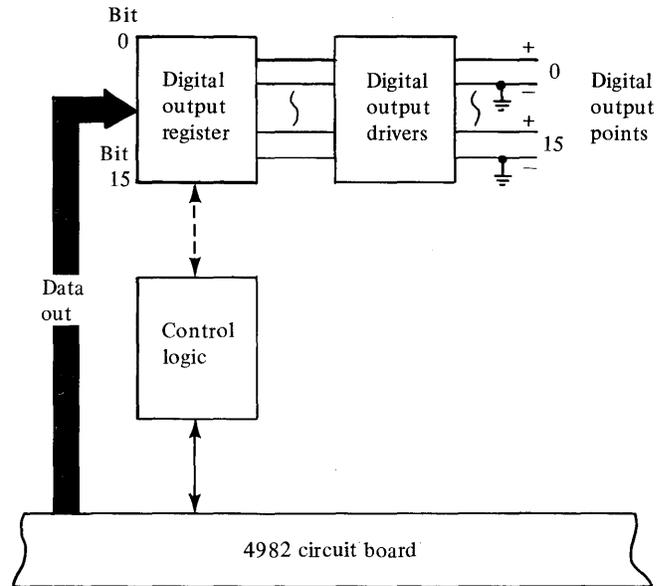

Figure 1-8. DO feature
The nonisolated digital output (DO) feature (Figure 1-8) provides 16 points of solid state nonisolated digital output. The DO feature contains one group of 16 grounded emitter output transistors. A binary one turns the transistor on, causing a negative transition. A binary zero turns the transistor off, causing the output to go to +5.5 V dc maximum or to the user supply voltage level (whichever is larger). All 16 bits are written to the output in parallel and latched until a new word is loaded into the DO register.